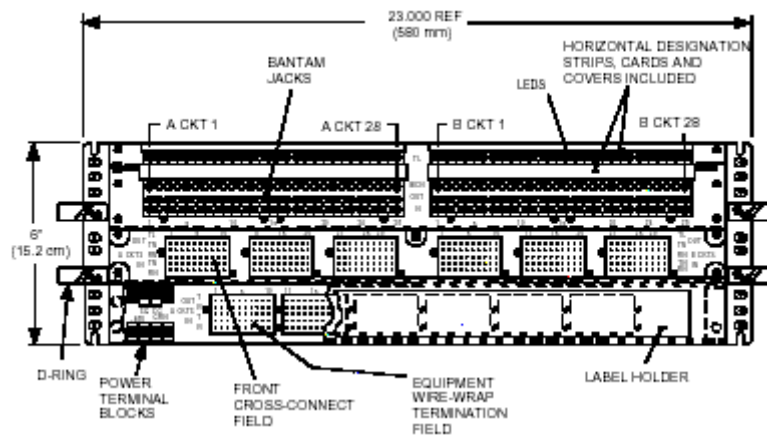

Figure 4. Front View of Panel with Cable Tray and Label
1. Route cross-connect wires through the D-rings and cable tray (see Figure 4).